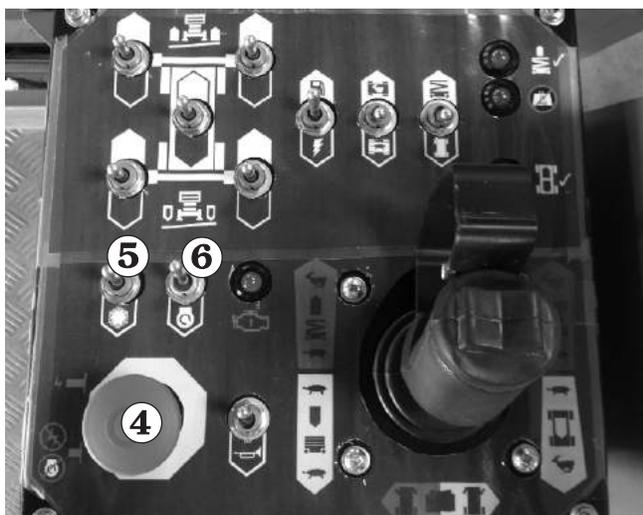

Figure 8.8
6. Turn the **Emergency Stop** switch ④ clockwise and it will pop out (on) (see Figure 8.8).
7. Press the **Glow Plug** switch ⑤ down and hold, for no longer than 20 seconds, then release it just before starting the engine for an engine that is at ambient air temperature (a cold engine). (see Figure 8.8).
8. Press and hold the **START** switch ⑥ down until the engine starts or for 20 seconds, whichever comes first. When the engine starts, release the START switch ⑥ (see Figure 8.8).